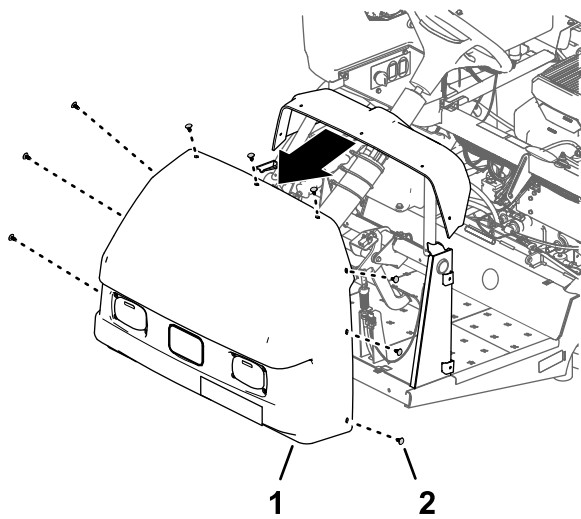

Figure 13
2. Remove the 9 push-in fasteners that secure the hood to the dash and frame of the machine (Figure 13).
3. Remove the hood from the machine (Figure 13).